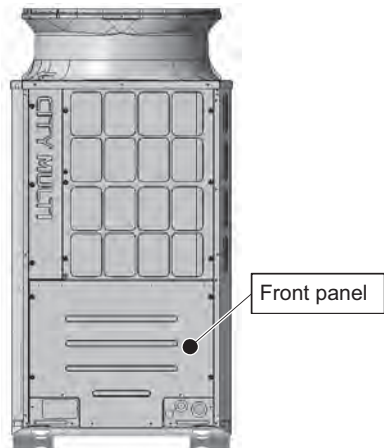

Figure 1
[Figure 1]
- (1) Remove the front panel from the unit by unscrewing the eight screws. (See Figure 1.)